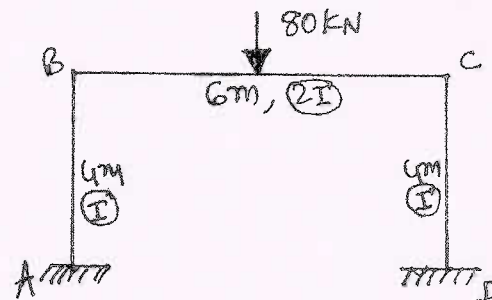

Fig.Q.10
- 10 Analyze the Portal frame shown in Fig.Q.10 by using stiffness method. Draw BMD and EC.